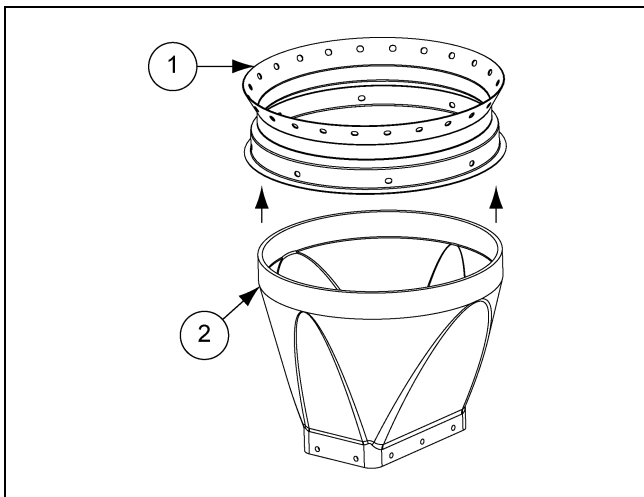
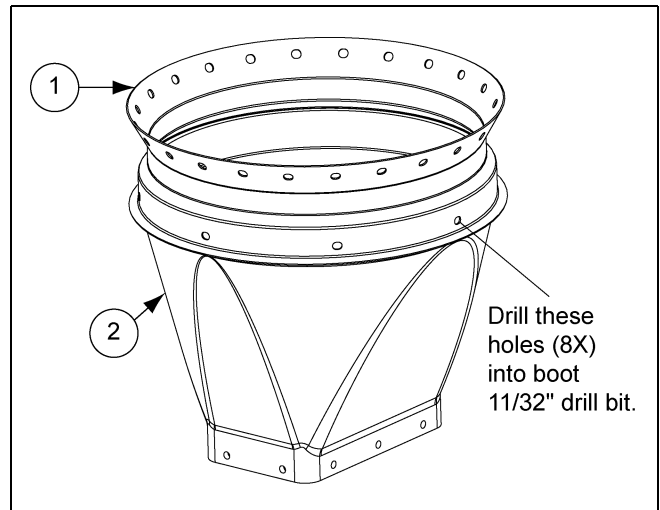

Figure 2
Figure 3
Slide the boot as far as possible into the tank collar or the Sure-Flo Feed Flow Control opening. (See Figure 2.) Align the boot with the Flex-Flo System that will be installed. Using the holes in the collars for guides, drill eight (8) 11/32" holes into the boot rim. (See Figure 3.)